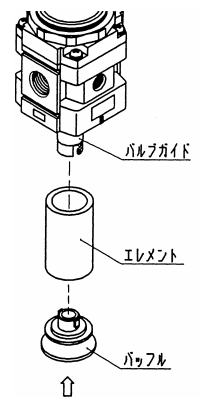

Fig.4
2. Detaching the element (See Fig.4).